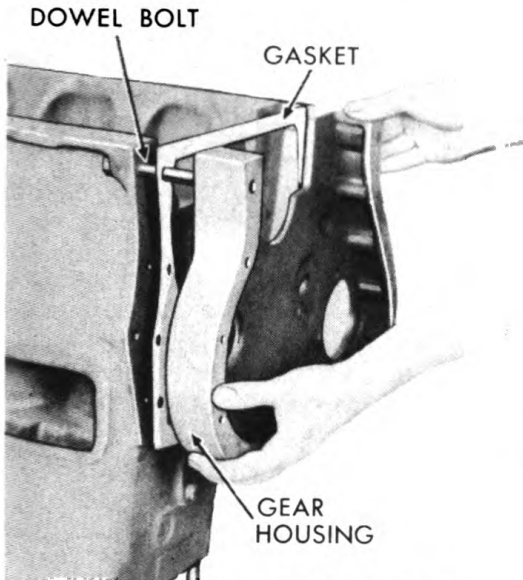

Figure 172. Installing Gear Housing.
2. Insert the two dowel bolts in the front end and "Permatex" and install the timing gear housing and gasket, and tighten the four capscrews and two counter-sunk capscrews. See Figure 172.